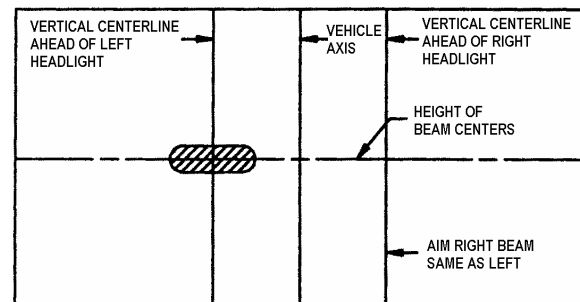

FIGURE 47: HIGH-INTENSITY ZONE (SHADED AREA) OF A PROPERLY AIMED UPPER BEAM ON THE AIMING SCREEN 7.6 M (25FT) IN FRONT OF VEHICLE
5. High beam headlights are aimed so that the center of the high-intensity zone is located at the horizontal and straight ahead vertically (Figure 47).